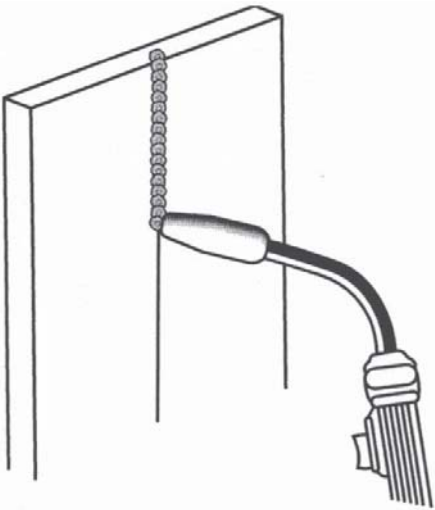

Figure 17. Vertical Position
3. The VERTICAL POSITION (Figure 17) is the next most difficult position. Pulling the gun from top to bottom may be easier for many people, but in some instances it can be difficult to prevent the puddle from running downward. Pushing the gun from bottom to top may provide better puddle control and allow slower rates of travel speed to achieve deeper penetration. When vertical welding, angle B (see HOLDING THE GUN - p.18) is usually always kept at zero, but angle A will generally range from 45 to 60 degrees to provide better puddle control.